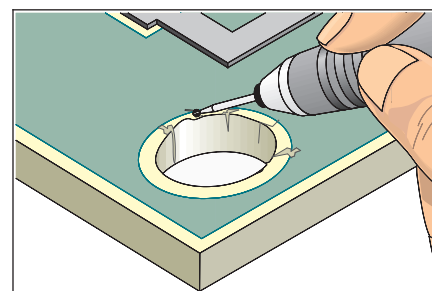

Figure 1 Mill away damaged material.
2. Mill away the damaged board base material using the hand held drill and ball mill. All damaged base board material and solder resist must be removed. No fibers of laminate material should be exposed at the surface perimiter of the hole. (See Figure 1.)